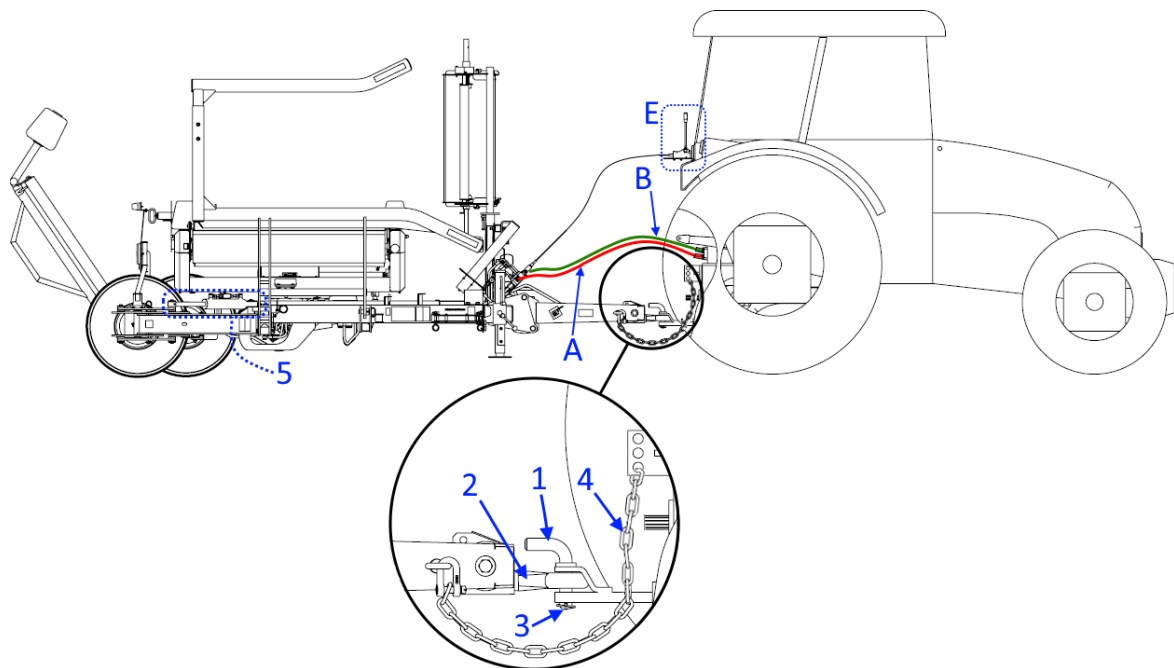

Figure 4. Connecting the hitch and drive of the Bale Wrapper
- Disconnect the drawbar eye from the transport hitch of the tractor. Detach the additional chain that links the hitch with the tractor (**Fig. 4 – 4**).